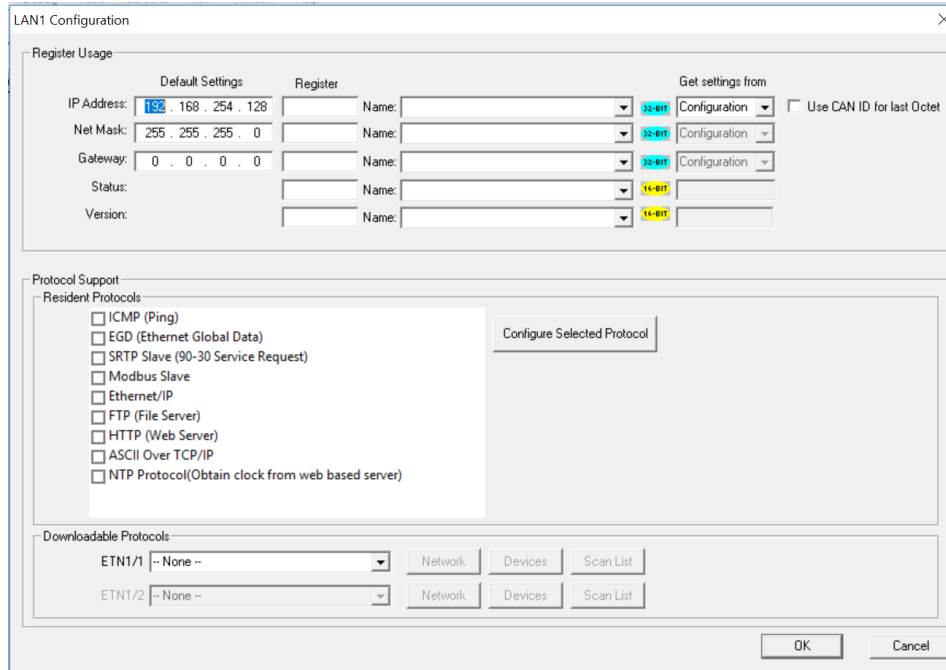

Figure 12.2 - Ethernet Module Configuration
- Click the **Config** button to the right of the LAN1 for LAN 1 or LAN2 for LAN 2, revealing the Ethernet Module Configuration dialog as shown in figure as shown in Figure 12.2.